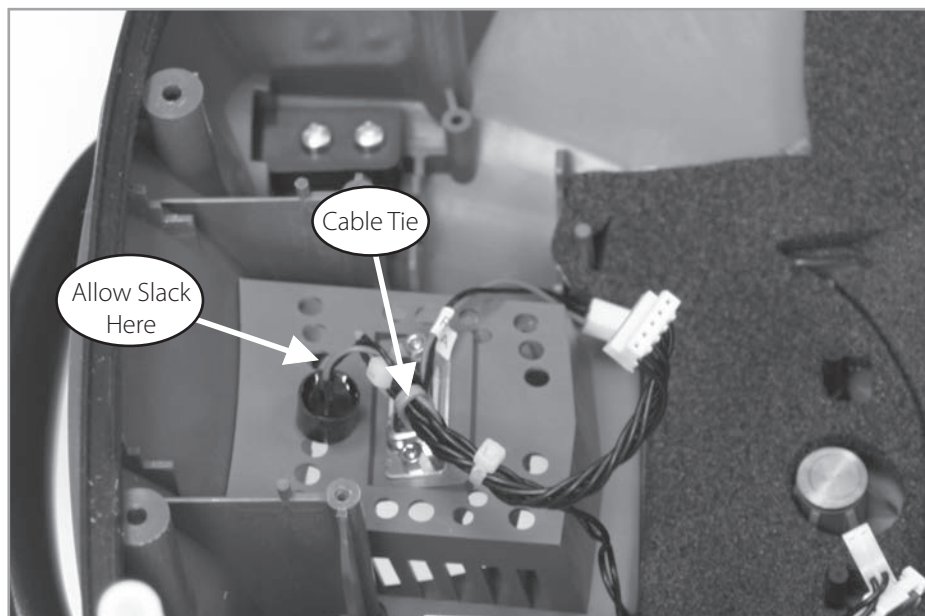

Figure 45: Buzzer Installation.
6. Install the Control Board Assembly. Secure the wire harness with Cable as shown on Figure 45. Insure that there is a slack on the wire harness before tightening the Cable Tie. Plug in the buzzer.